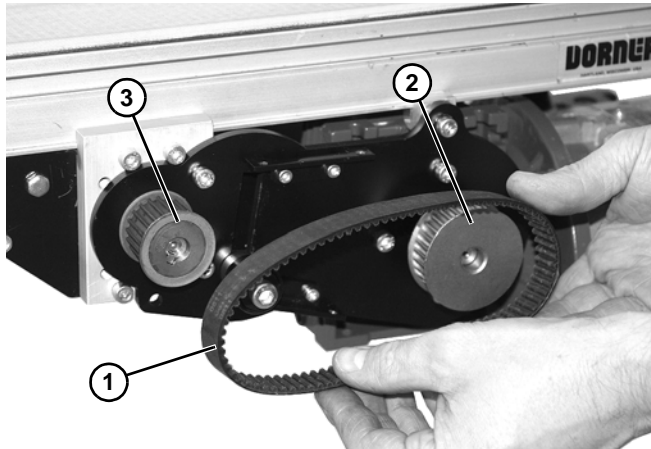

Figure 17
- Remove timing belt (Figure 17, item 1).
If timing belt does not slide over driven pulley (Figure 17, item 3) flange, loosen driven pulley set screws and remove pulley with belt (Figure 17, item 1). For re-installation, see steps 7 and 8 of "Bottom Mount Mid Drive Assembly" story on page 8.
- Install new timing belt around drive pulley (Figure 17, item 2) and driven pulley (Figure 17, item 3).
If drive pulley (Figure 17, item 2) is replaced, wrap timing belt around drive pulley and complete step 3.